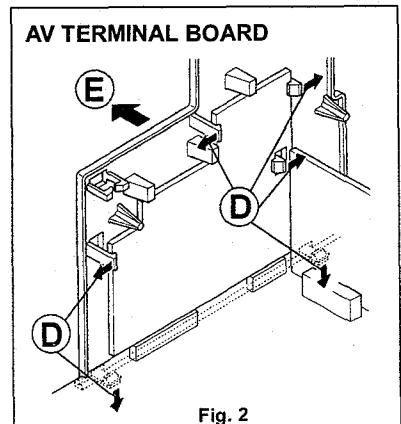

Fig. 2
2. While raising the claw marked "(D)", remove the top of the AV TERMINAL BOARD slightly in the direction of arrow "(E)" as shown in Fig. 2.